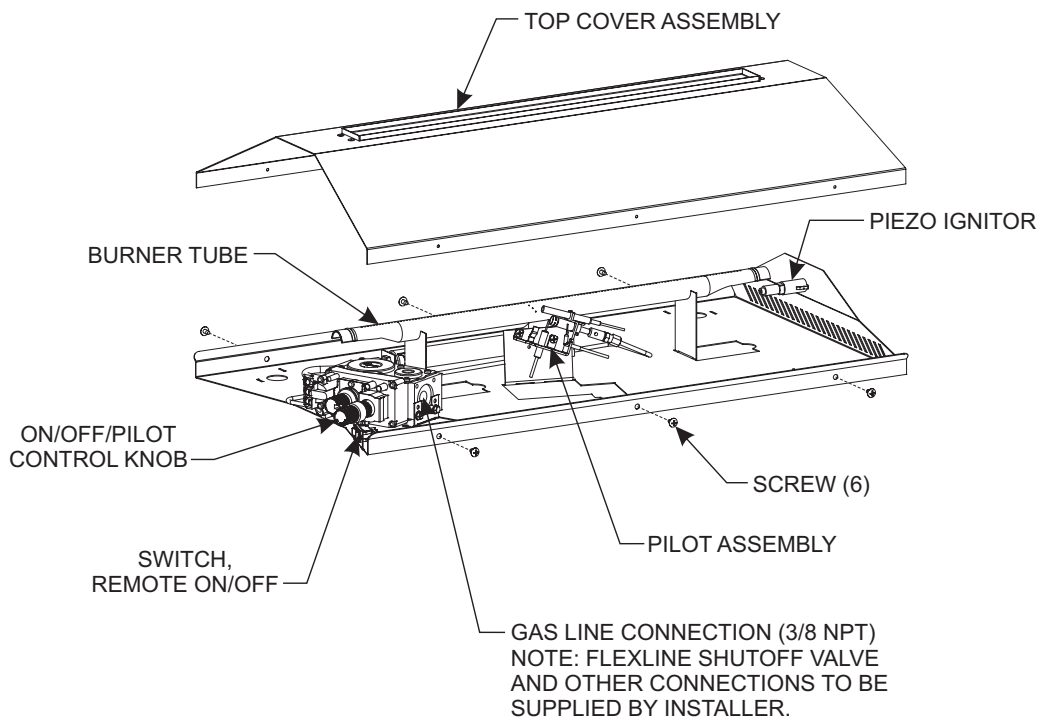

Figure 14
1. Remove top cover assembly as illustrated by Figure 14. Remove three (3) #8 x 1/2" Phillips Head screws from each of the front edges, then gently lift up the top cover assembly.
4. Anchor holes are provided in the bottom base (or optional support legs) of the burner housing. After centering the burner base correctly, mark the hole positions on the fireplace/firebox floor. Drill two (2) 5/32" diameter holes approximately 1-1/2" deep for masonry screws or 1/8" hole for sheet metal screws.